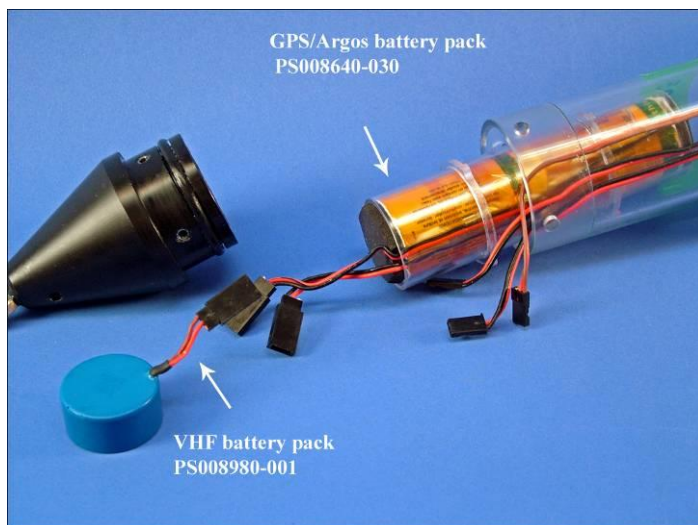

Fig. 4 GPS-ARGOS battery pack installed in battery holder assembly with VHF battery pack ready for installation in nose cone.
1. Obtain a **VHF** battery pack **PS008980-001** and a **GPS-ARGOS** battery pack **PS008640-030** in preparation for battery pack replacement. Take the new GPS-ARGOS battery pack and slide it into the battery holder assembly **HD008997-001** (**Fig. 4**) **NOTE:** The connectors for both the GPS-ARGOS and VHF battery packs are keyed differently so that they will only match the corresponding connectors.